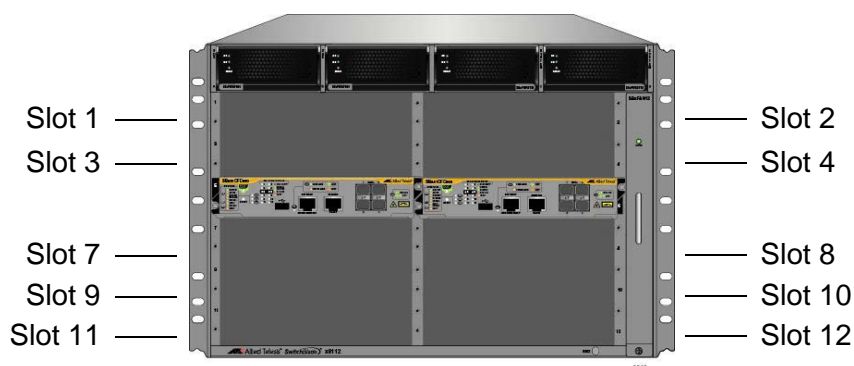

Figure 71. Slots 1 to 4 and 7 to 12 for the Ethernet Line Cards
1. Choose a slot in the chassis for the Ethernet line card. The Ethernet line cards may be installed in slots 1 to 4 and 7 to 12. The slots are shown in Figure 71.